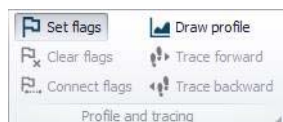

Figure 20.29 The Profile and Tracing toolbox on the Map ribbon
- On the Map View, define path flags via 'Set flags' on the 'Profile and Tracing' toolbox on the Map ribbon (Figure 20.29).